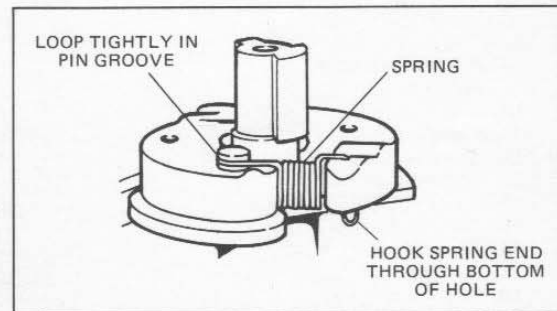

Figure 5-22. Advance Unit Flyweight Spring Assembly
Check flyweight springs (13), and if bent or stretched, replace them. When installing, be sure that bent end of each spring is hooked through bottom of hole, and that upper looped end grips groove in pin tightly. See figure 5-22. Check for looseness of rotor (7) on shaft (15) and wear on sides of flyweight (14) ears which engage slots in rotor.